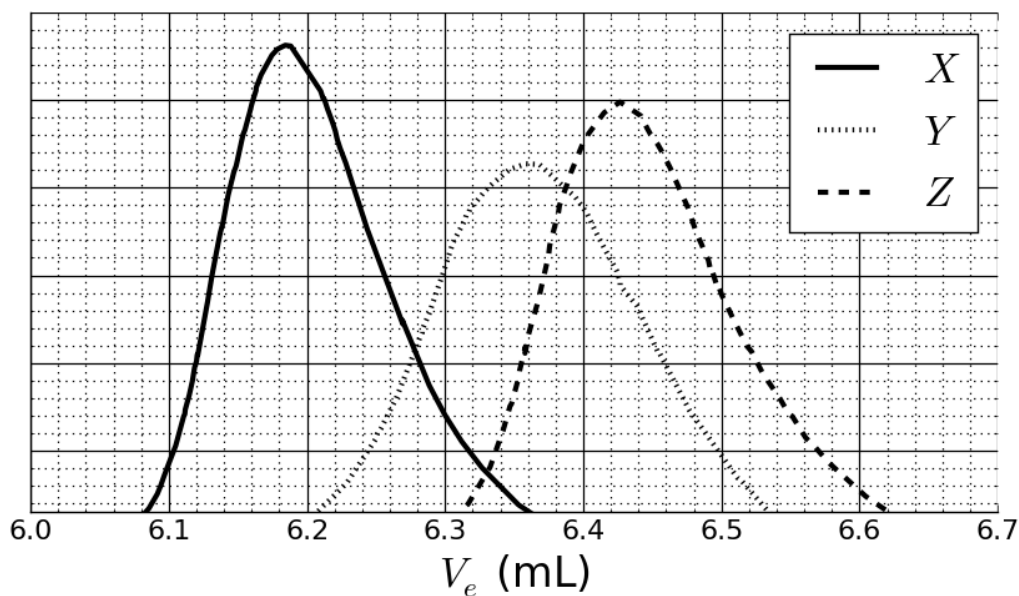

Fig. 2 – SEC chromatograms of **3a**, **3b** and **3c** as a function of the elution volume,  $V_e$ .
This reaction of **1** with **2** yielded the copolymers **3a** after 20 h, **3b** after 25 h and **3c** after 30 h of reaction at 40°C. Results of size-exclusion chromatography (SEC) experiments are presented in Fig. 2.
6. **Match** the signals in Fig. 2 with the copolymers **3a**, **3b** and **3c**.
7. Based on the SEC curves in Fig. 2 and 3, **determine**  $V_e$  of the polymer that corresponds to curve X and use it to **estimate** the degree of polymerization  $m$  of its second block. **Detail** your calculation; you may use a calculator or plot a graph.